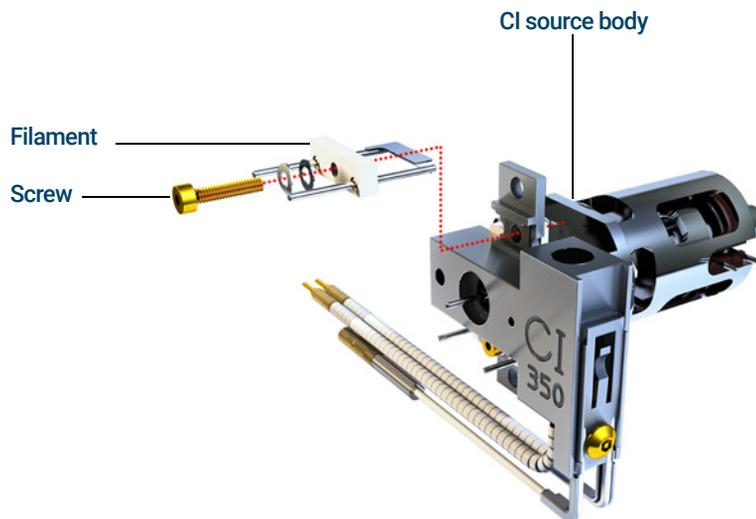

Figure 90. Changing the CI source filament
- 4 Remove the screw holding the filament to the CI source body. (See **Figure 90** on page 274.)
- 5 Slide the filament off the CI source assembly. (See **Figure 90** on page 274.)
- 2 Place the new filament into its position on the ion source body. (See **Figure 90** on page 274.)